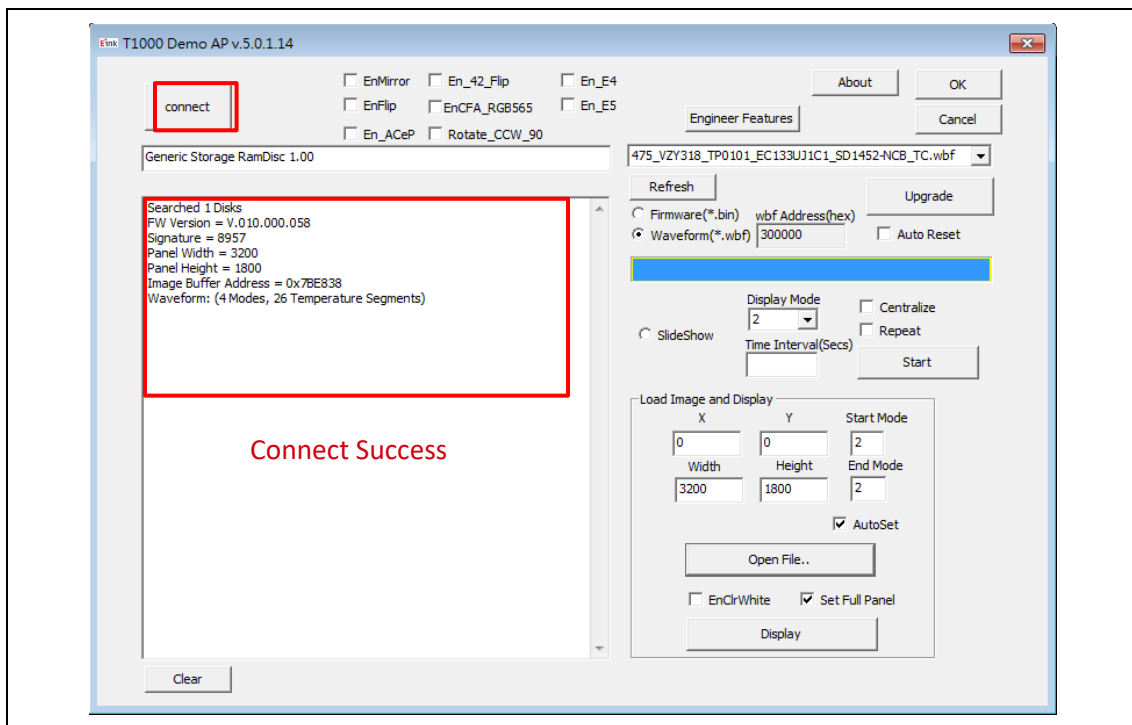

Figure 3.1
- Execute the "T1000_Windows_AP.exe" software and click the "Connect" button to ensure that the software is successfully connected to the physical drive. (refer to Figure 3.1)